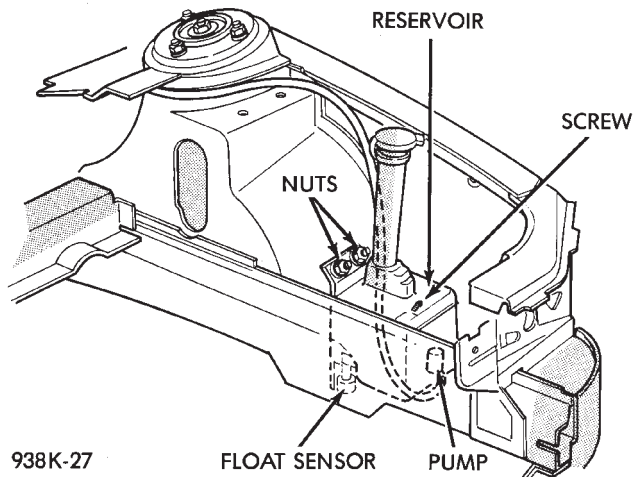

Fig. 22 Reservoir Removal
(2) Remove two reservoir retaining nuts and screw then remove reservoir (Fig. 22).